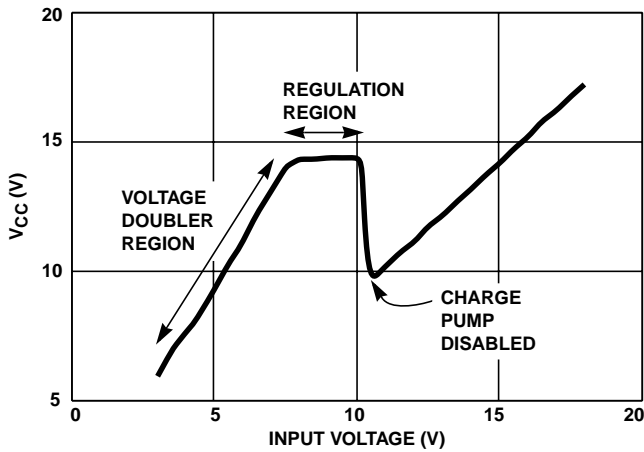
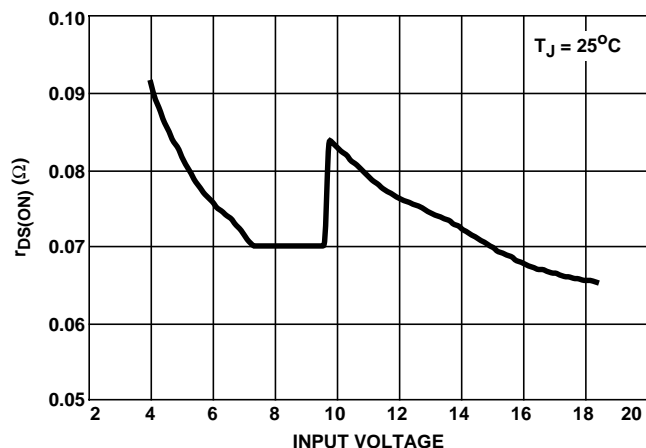
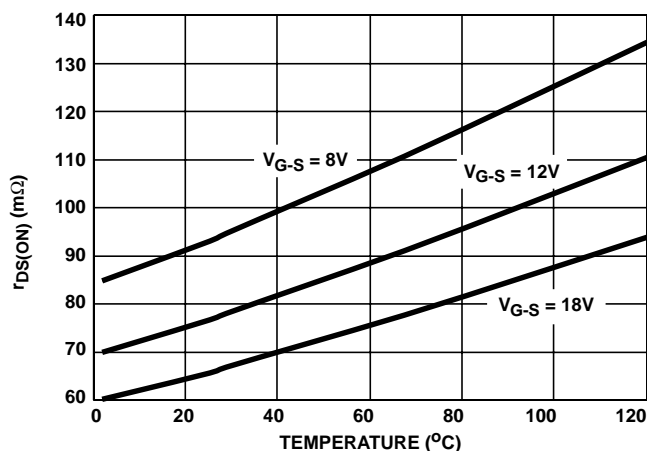

FIGURE 10. CHARGE PUMP REGULATOR INPUT VOLTAGE CHARACTERISTICS
FIGURE 14. $r_{DS(ON)}$ vs INPUT VOLTAGE
FIGURE 15. $r_{DS(ON)}$ vs JUNCTION TEMPERATURE
The charge pump regulator supplies control power (V_{CC}) to the internal functions of the HIP5020. The charge pump operates for input voltage levels below 9.8V and is disabled for input voltages above 9.8V. Figure 10 shows the charge pump output voltage (V_{CC}) as a function of the input voltage (V_{IN}). For input voltages below 9.8V nominally, the charge pump operates in two regions - as a voltage doubler and as a voltage regulator. The charge pump operates as a normal voltage doubler when V_{CC} is below approximately 14.8V. The charge pump limits V_{CC} to approximately 14.8V in the regulation region. For input voltages above 9.8V, the charge pump is disabled and V_{CC} follows the input voltage less a diode drop.
Conduction losses are a significant portion of the power dissipation in a DC-DC converter. The HIP5020 conduction losses are the product of the square of the average output current and the MOSFET on-resistance - $r_{DS(ON)}$. The $r_{DS(ON)}$ of the MOSFETs is a function of V_{CC} and junction temperature. V_{CC} changes with the input voltage as shown in Figure 10 above. Figure 14 shows the maximum $r_{DS(ON)}$ of both MOSFETs as a function of input voltage for a junction temperature of 25 $^{\circ}$ C. The junction temperature of the HIP5020 also effects $r_{DS(ON)}$. Figure 15 shows the $r_{DS(ON)}$ as a function of temperature for three gate voltage levels.
1. Assume that the gate voltage is equal to V_{CC} . Find the gate voltage at 25°C from Figure 10.
2. Multiply this number by the $r_{DS(ON)}$ shown in Figure 15. Interpolate as necessary.